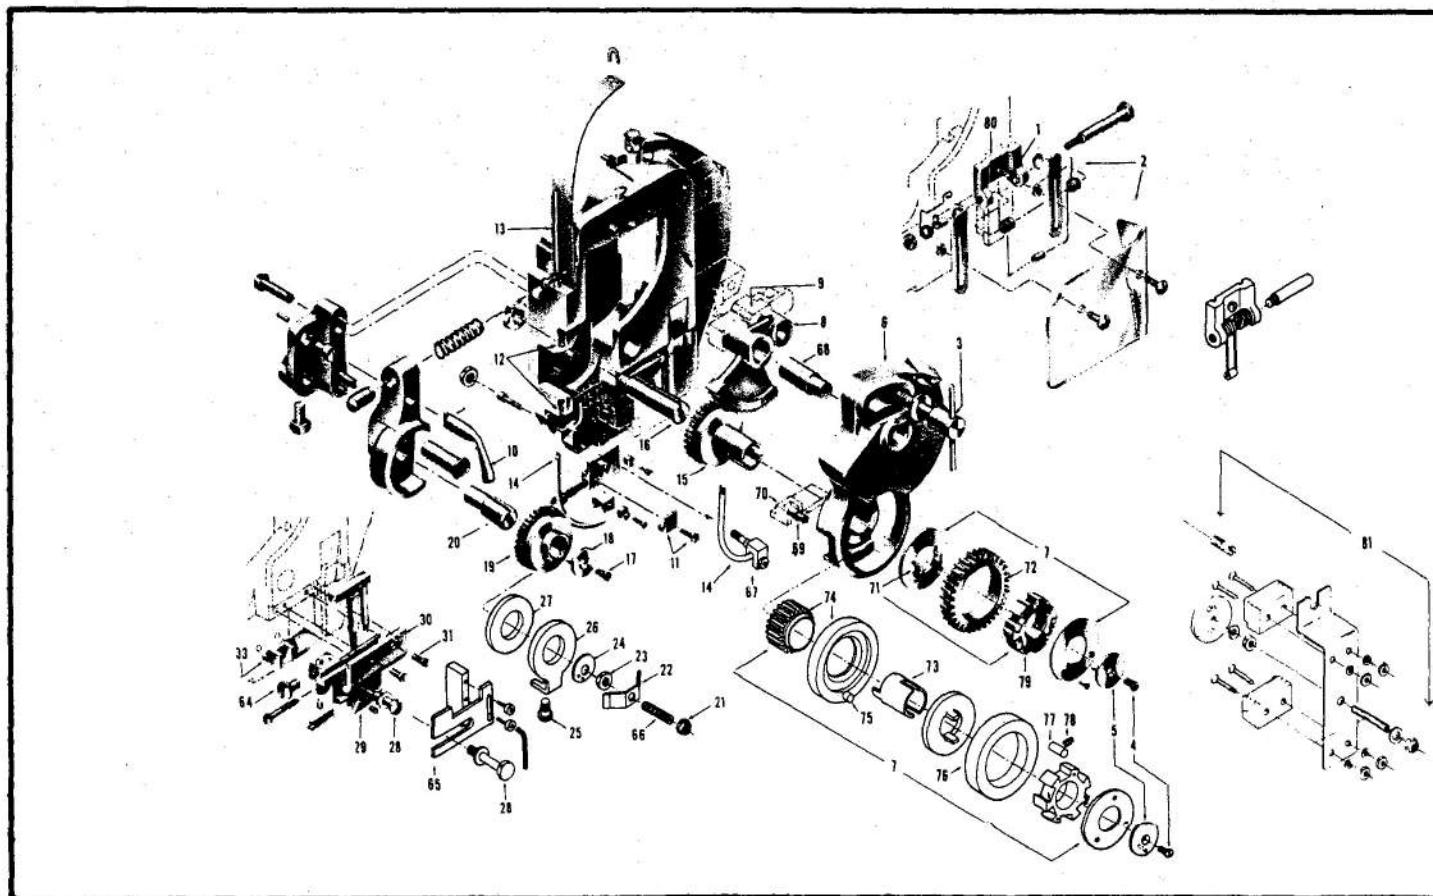

Figure 21—Disassembling and Reassembling Stitcher Head
1. HOW TO DISASSEMBLE AND REASSEMBLE STITCHER HEAD (See Fig. 21)
Figure 21 illustrates the disassembling and reassembling procedures only and is not intended to identify parts for purposes of ordering parts. For ordering parts see Fig. 22 and 23, and the accompanying Parts List.
a. HOW TO REMOVE WIRE FEED, WIRE CUTTING, AND GRIPPER ASSEMBLIES (See Fig. 21).
b. HOW TO REMOVE WIRE FORMING AND DRIVING ASSEMBLIES (See Fig. 21).
c. HOW TO REINSTALL WIRE FORMING AND DRIVING ASSEMBLIES (See Fig. 21).
d. HOW TO REINSTALL WIRE FEED, WIRE CUTTING, AND GRIPPER ASSEMBLIES (See Fig. 21).